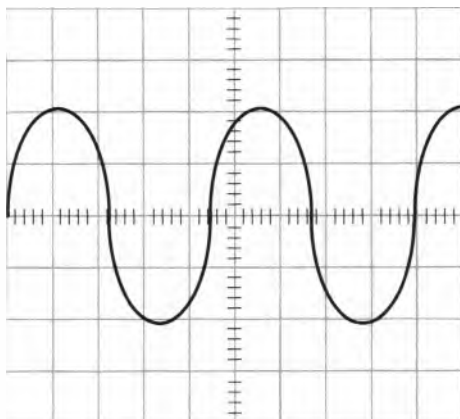
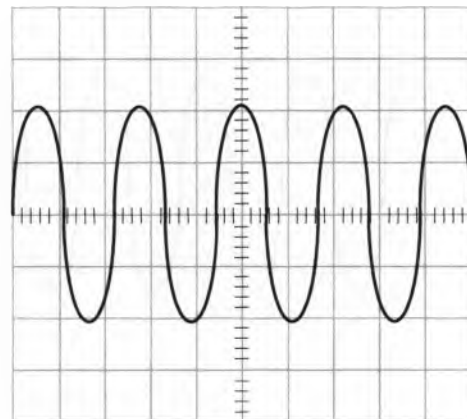

Figure 1
Figure 2
3. What oscilloscope control would you adjust to change the display from Figure 1 to Figure 2?